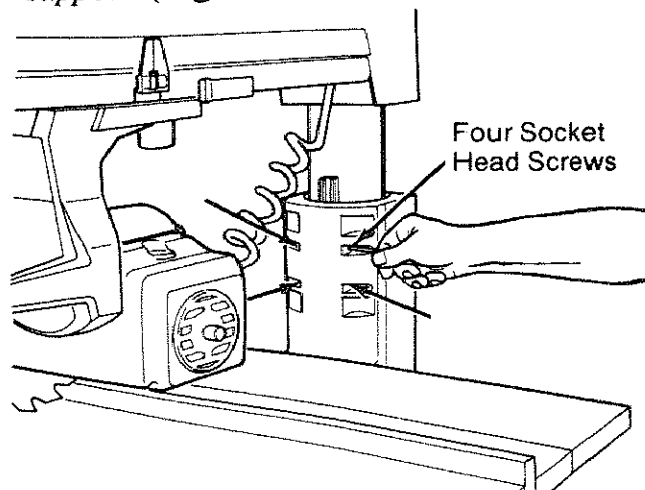

Fig. 35
1. Use a $1/8"$ hex "L" wrench to loosen the four screws in the front of the *column support*. (Figure 35)